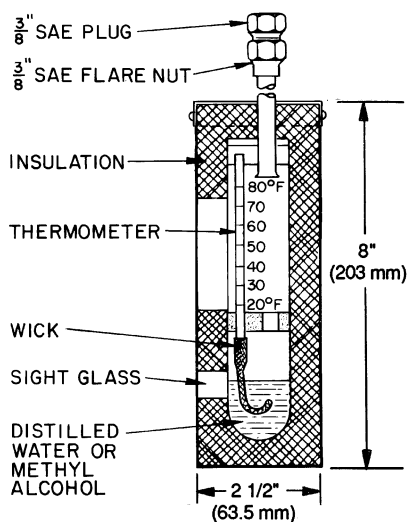

Fig. 25 — Typical Wet-Bulb Type Vacuum Indicator
- absolute pressure manometer or wet-bulb vacuum indicator (Fig. 25)